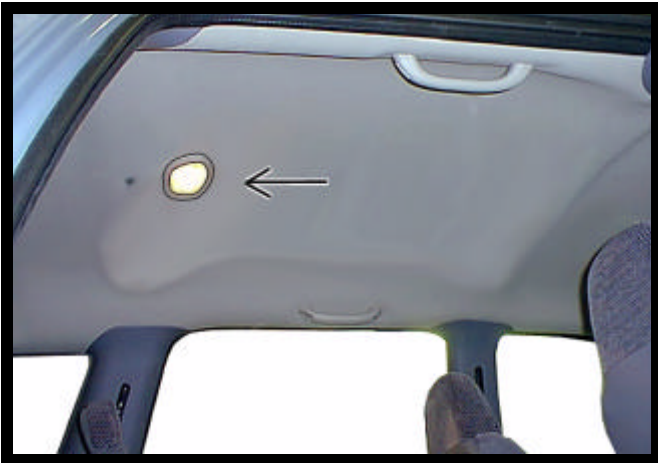

FIGURE 1
1. Remove and retain O.E. dome light by gently prying downward on rear edge of lens then slide frame assembly out. Disconnect wiring and lay dome light in a safe place. See Fig. 1.